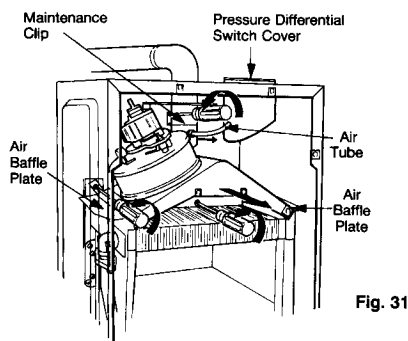

Fig. 31
8.10.2 Loosen maintenance clip securing screws (see fig. 31) and slide upwards to clear joint.
Remove 3 flue hood retaining screws (see fig. 31)
Part No 5926 Refer to fig 31
8.11.2 Remove 3 screws holding pressure differential switch cover (fig. 31) and remove cover.